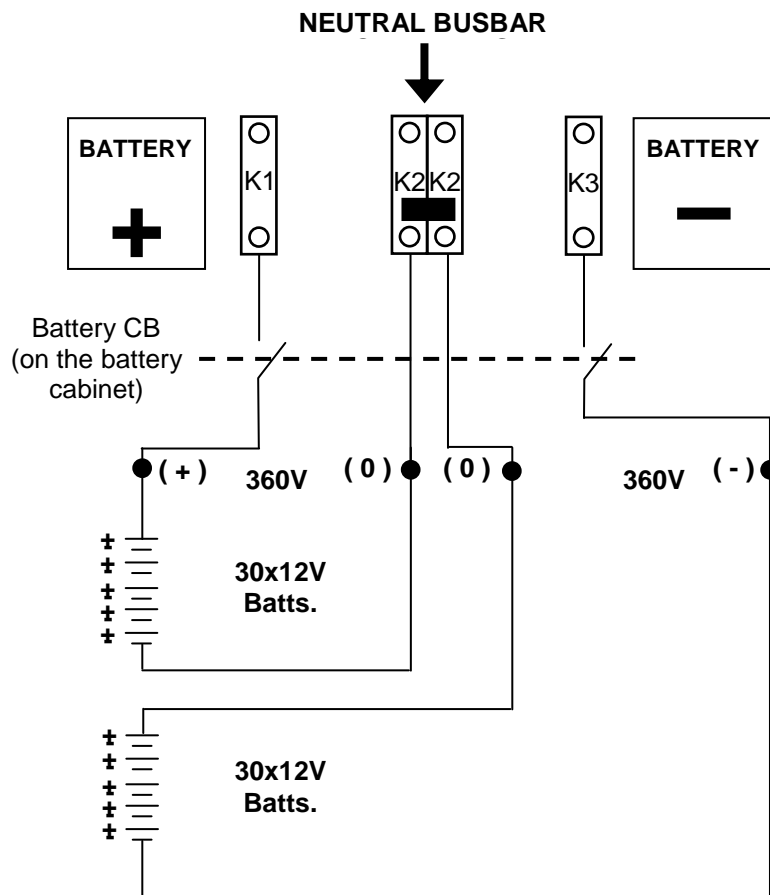

Figure 2.3 Battery Connections (60x12V)
6. After interconnecting the batteries as shown in Figure 2.3 connect "+", "0" and "-" leads of the batteries to the battery input terminals on the UPS. Be careful to connect the batteries correctly and do not turn on (S5) before checking all connections and before starting the UPS. In CL-300P Series UPS, 60 blocks of batteries are connected in series, in such a way that they form two strings of batteries with opposite polarity; with a center tap connection to the NEUTRAL (N1-N2) internally.